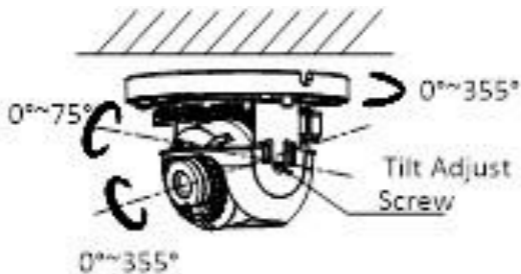

Figure 2-6 3-Axis Angle Adjustment – Liner Removed
5. Rotate the pan mechanism to adjust the pan and camera body rotation positions in a range of 0~355 degrees until you align in the desired direction and the image is upright. Remove the black liner to adjust the camera module rotation. Figure 2-6